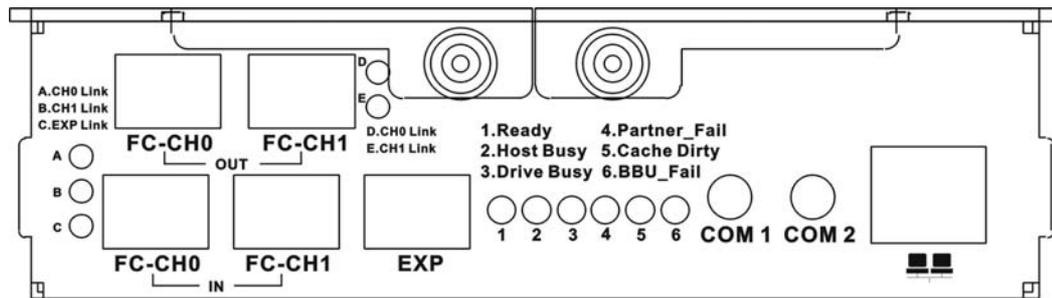

Figure1-9: ES A16F RAID Controller Module Rear Panel
The ES A16F RAID controller module rear panel is shown in *Figure1-9* and has five (5) SFP connectors (two labeled **FC-CH0**, two labeled **FC-CH1**, and one labeled **EXP**). Two (2) RS-232C (audio jack) serial ports (labeled **COM1** and **COM2**), one (1) RJ-45 Ethernet connector (next to **COM2**) and status-indicating LEDs (labeled from **1** to **6** and from **A** to **E**) are also seen on the controller module rear panel. The controller board is located in the controller module and can only be seen after the controller module has been removed from the subsystem enclosure. The controller module rear panel has two (2) levers that secure the controller module to the ES A16F subsystem enclosure. These levers are, in turn, secured to the rear of the controller module with two (2) hand retention screws located at the top of the controller module in the center.